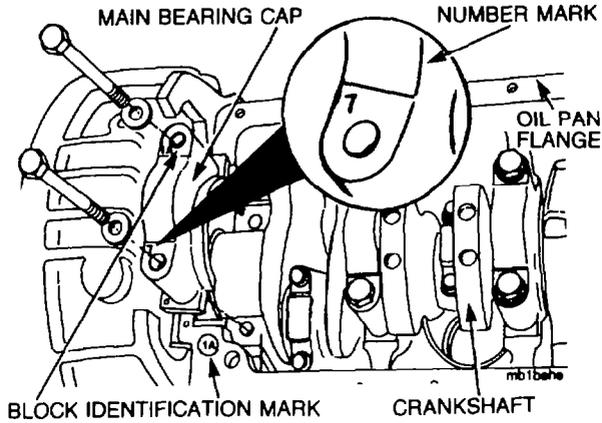

Figure 46 — Main Bearing Cap — Identification
- r. Position the main bearing caps, according to the stamped location number, on the cylinder block with the location number toward the camshaft side of the engine (see Fig. 46).